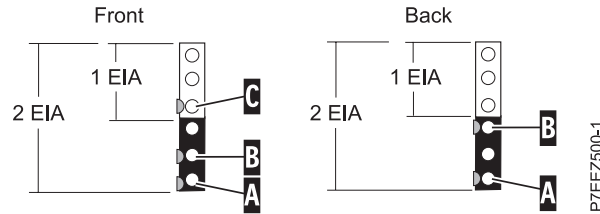

Figure 2. Marking holes on the front and rear of the rack frame
2. Beginning with the hole identified by mark **A**, count up one hole and place a second mark as **B**. Mark the rack so the mark can also be seen from the rear of the rack, as shown in Figure 2.
3. Beginning with the hole identified by mark **B**, count up two holes and place a third mark as **C**, as shown in Figure 2.
7. Beginning with the hole identified by mark **A**, count up two holes and place a second mark **B**, as shown in Figure 2.